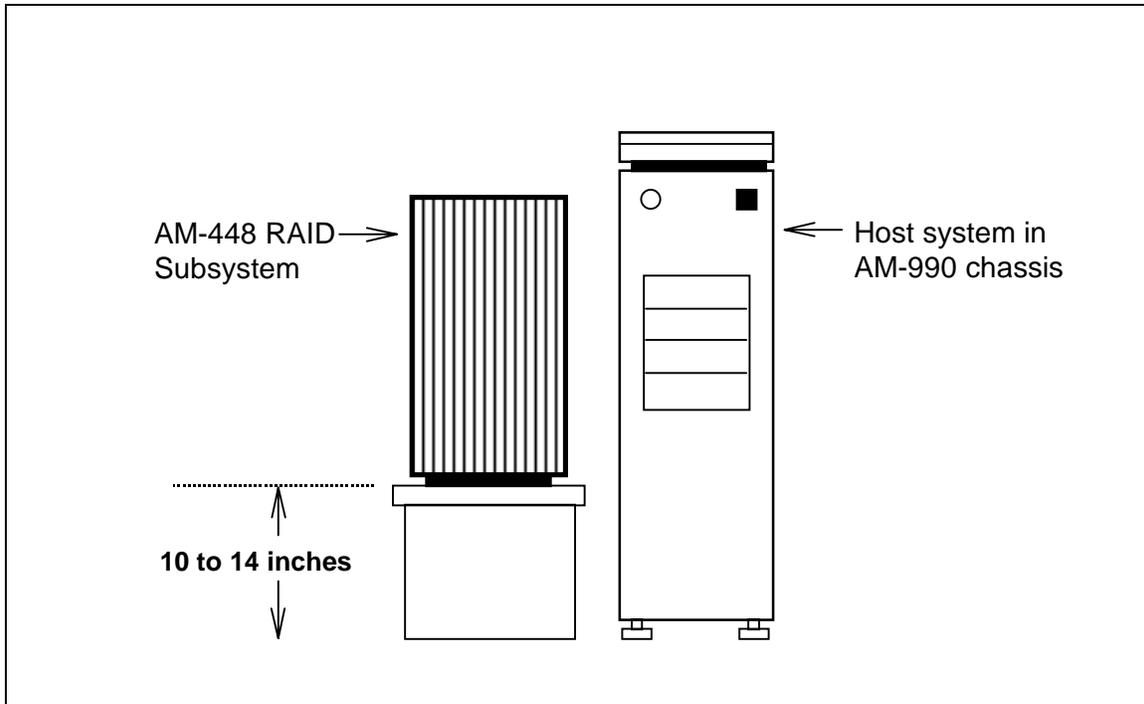

Figure 1. Installing an AM-448 with Host System in AM-990 Chassis (front view)
- **When the host system is an AM-990 chassis**—Position the AM-448 enclosure immediately to either side of the AM-990 chassis and 8 to 12 inches off the floor. See Figure 1. This is the most convenient setup for using the standard 3-foot cable, which is essential for proper operation.